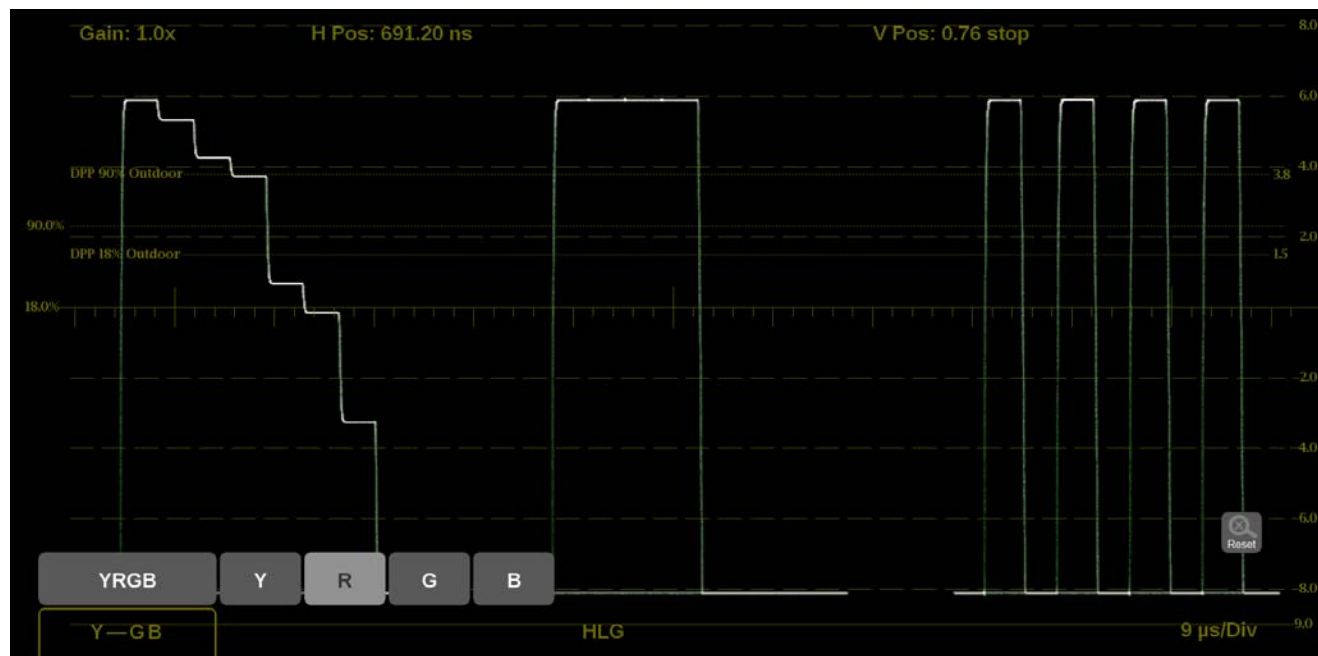

Figure 87: Stop Display on-screen tools – Display Mode
1. Touch the button in the bottom left corner of the application to expand the available display options. (See Figure 87.)